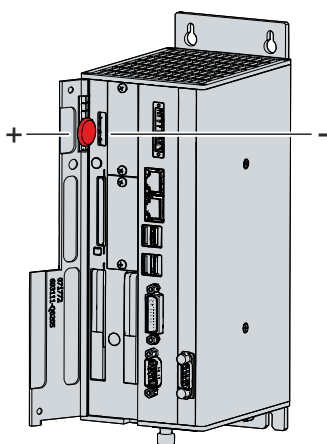

Fig. 25: C6930_Battery change
2. Insert the new battery into the PC by hand. Pay attention to the correct polarity. The negative pole of the battery must face the voltage socket of the industrial PC (see fig. 25).